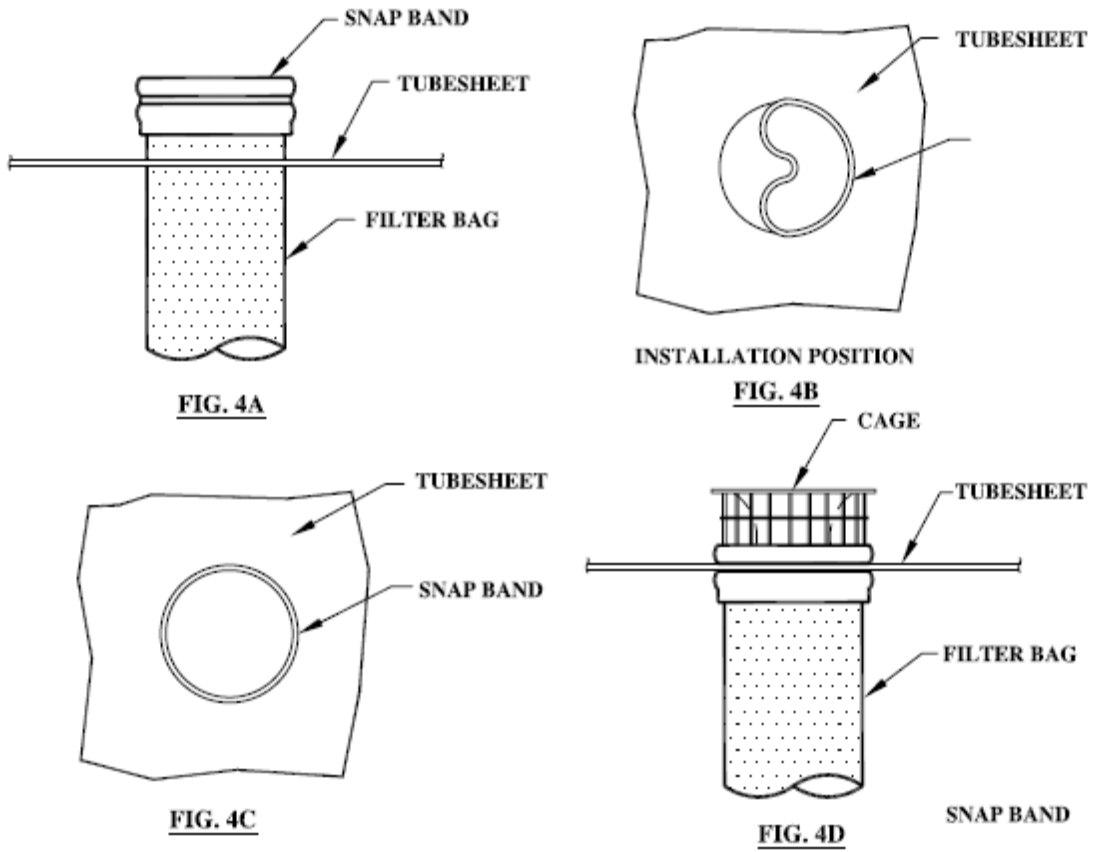

Figure 4 Bag and Cage Installation
- **Filter Media** – installed as shown in Fig.4